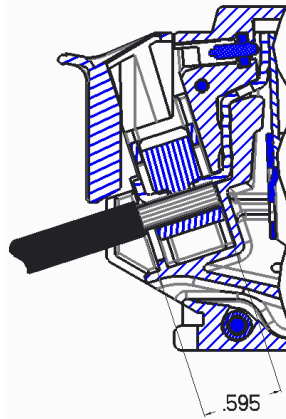

Figure 4: Stripped Wire Installed
6. Wire the circuit breaker to be used as main. Fig. 4
After stripping the wires to the required length, the wires can be installed as shown in Figure 4. The service barrier must be correctly installed to maintain electrical isolation from accidental contact. Torque the wires according the torque specification on the breaker.